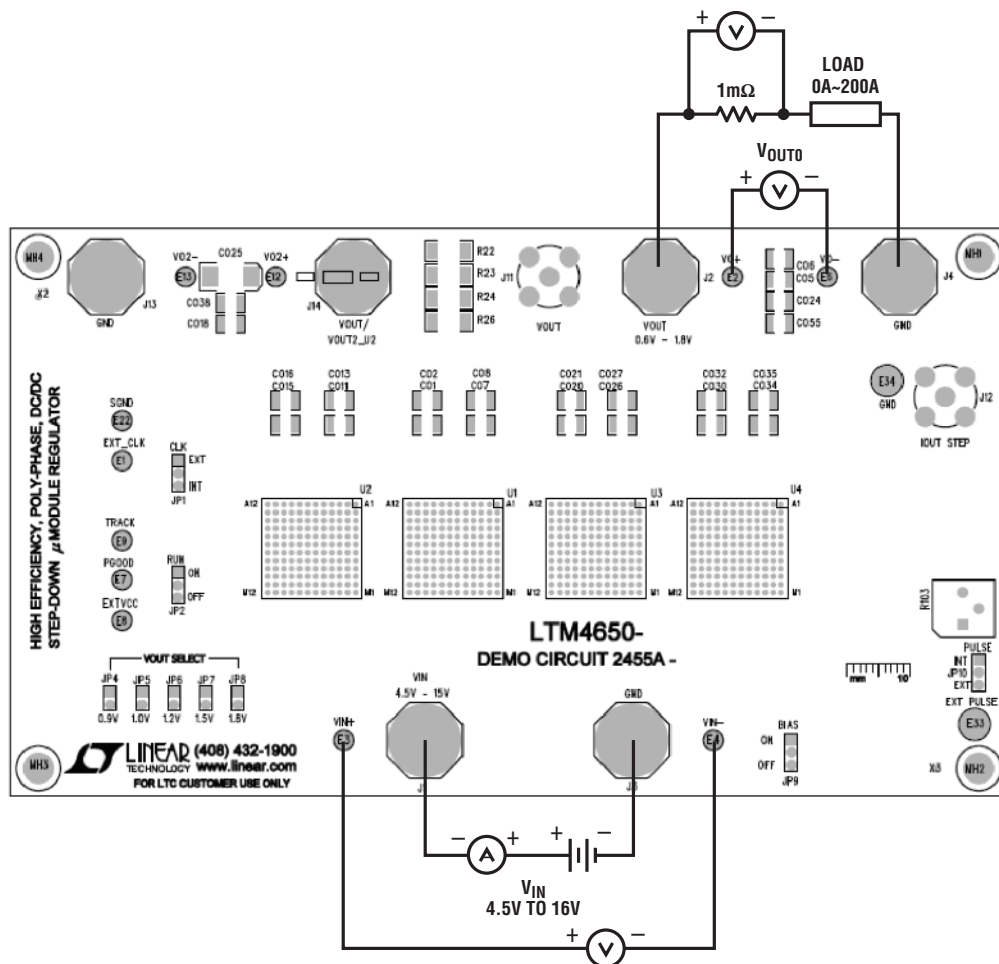

Figure 2. Test Setup of DC2455A-C
Demonstration circuit DC2455A-C is easy to set up to evaluate the performance of PolyPhase operation of the LTM4650EY-1. Due to the high input/output current, user should select the proper input supply/load/cable which can sustain the full load operation. It's recommended to pull load current from J2 and J4. The load current pulled from J5 and J6 shouldn't exceed 25A. Please refer to Figure 2 for proper measurement setup and follow the procedure below:
- With power off, connect the input power supply, load and meters as shown in Figure 2. Preset the load to 0A and V_{IN} supply to 12V.